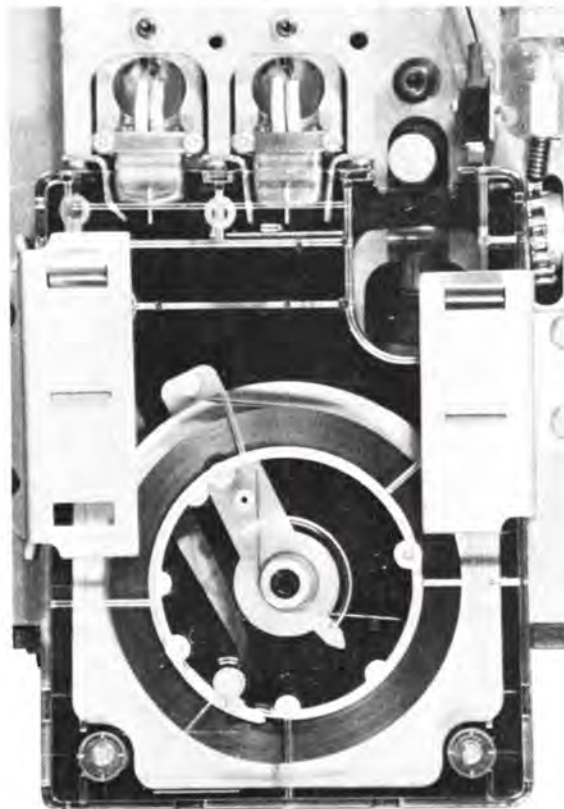

Fig. 3-14
4. The right-hand cartridge guide is snug and square against the cartridge body right-hand side. See Figure 3-14.